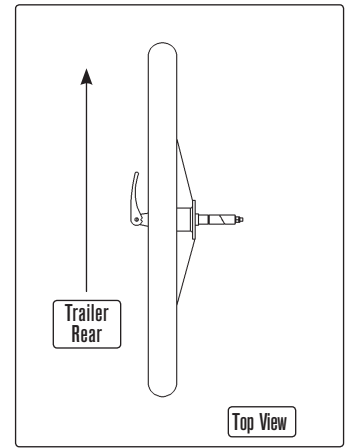

FIGURE 5: Quick release lever in locked "closed" position
2. Close quick release lever, with lever aimed at trailer rear. A properly adjusted quick release lever should leave an imprint on your palm when the lever is rotated to the closed position. **FIGURE 5**